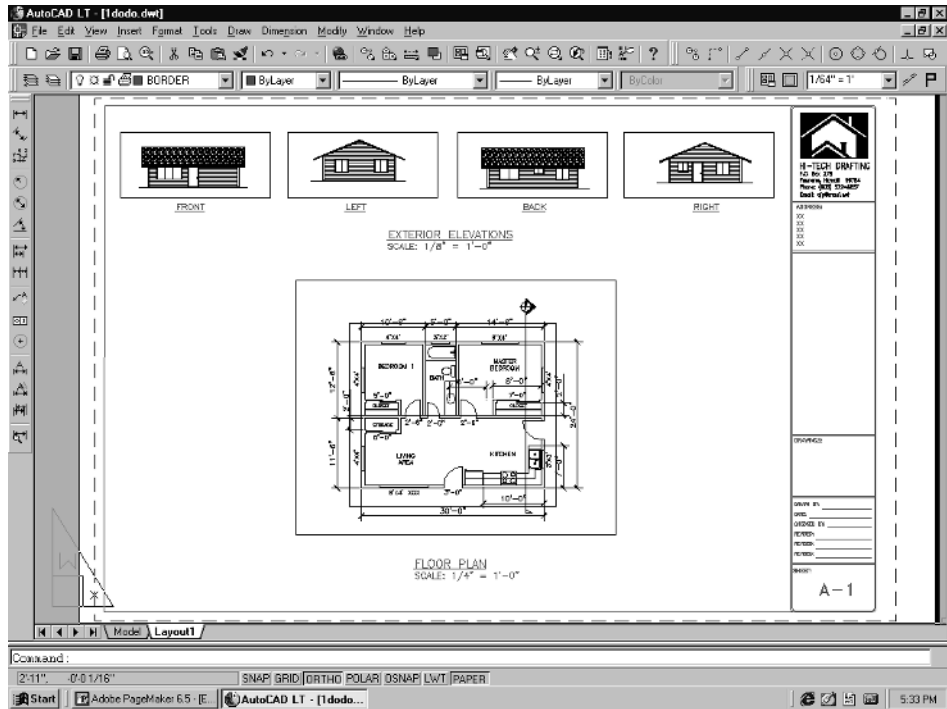

Figure 4-76
4. The last task is to stretch and resize the viewports so that they mask out any extra lines or other parts of the drawing from showing in the viewports. This is easily done by first picking **MODEL** on the status bar, changing back to paper space. Then pick on the viewport outline and grab one of the “grips” and drag it so that the viewport itself reduces down and eliminates the unwanted lines. See Figure 4-76 for the finished product.